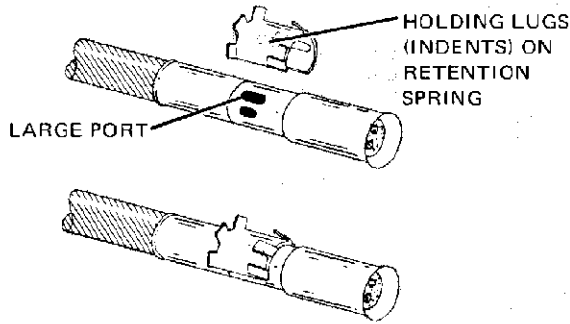

Figure 8
- (a) Place open side of spring against section containing large crimping ports. See Figure 8.